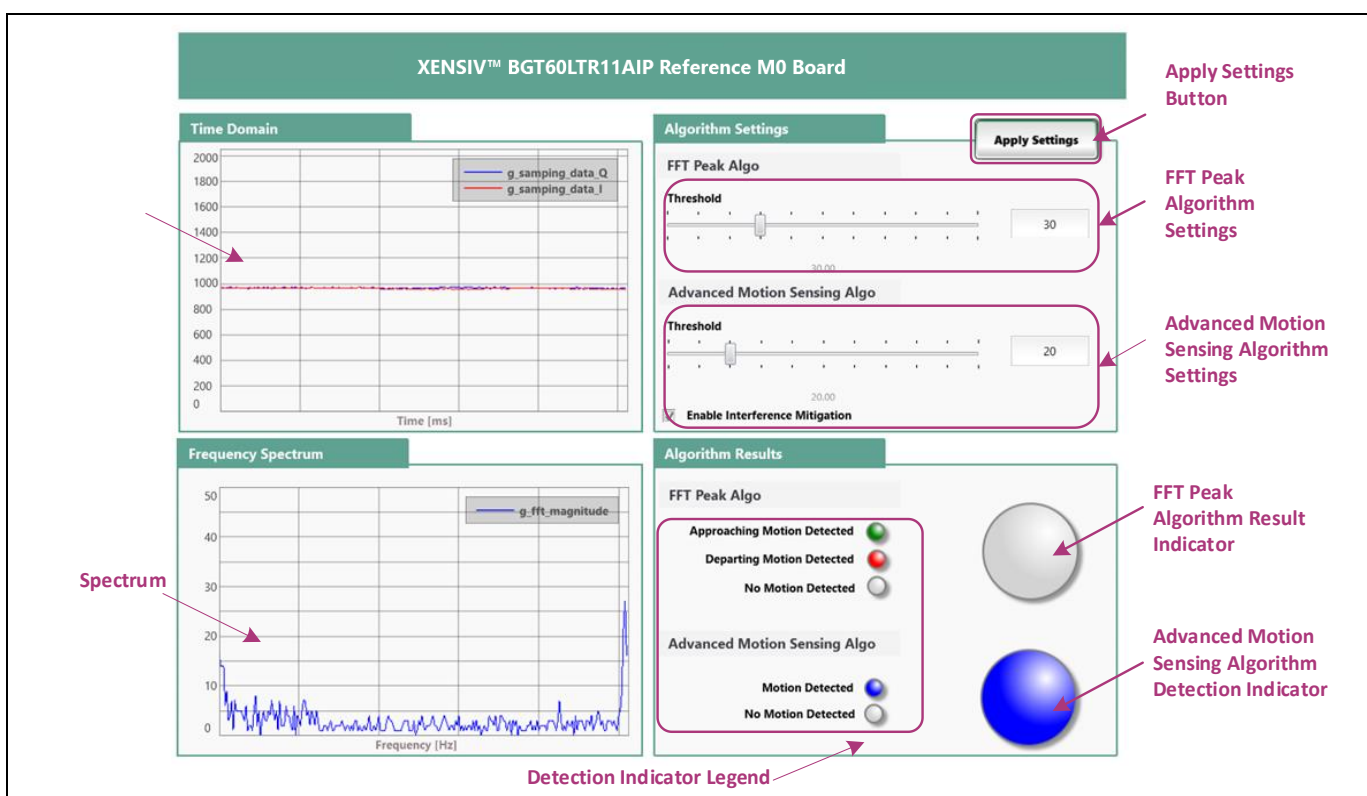

Figure 25 Data display on Micrium-based GUI
- The GUI interface in Figure 25 should appear.